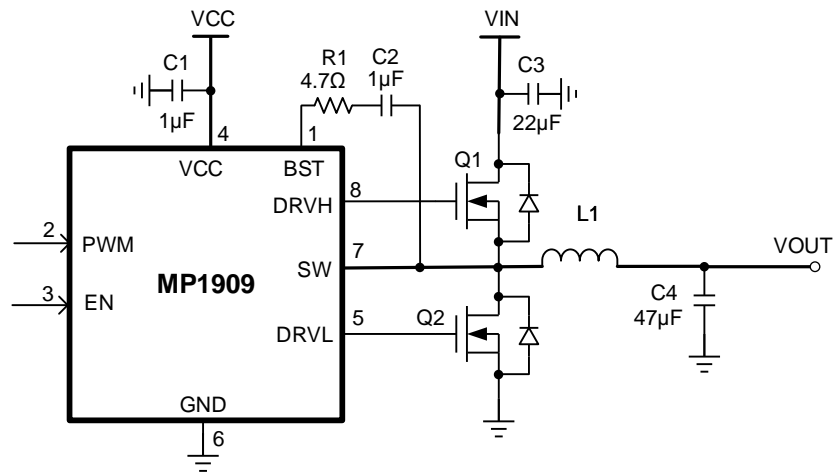

Figure 5: Buck Driver
10) The recommended layout is based on the circuit on Figure 5.